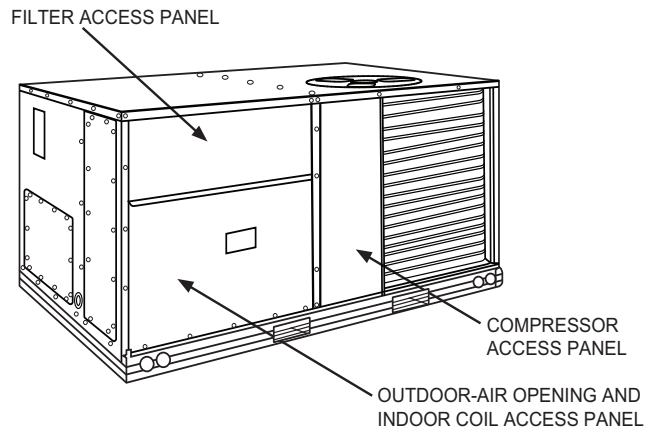

Fig. 8 — Typical Access Panel Locations
2. To gain access to the hood, remove the filter access panel. See Fig. 8.